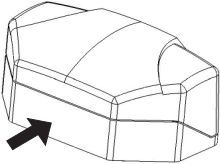
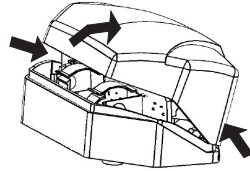

Figure 3
Figure 4
11.1 Remove the Detector cover by pressing on the back wall of the Detector base (Figure 3) and pressing the edges of the cover by the fingers of the other hand at the points shown in Figure 4.